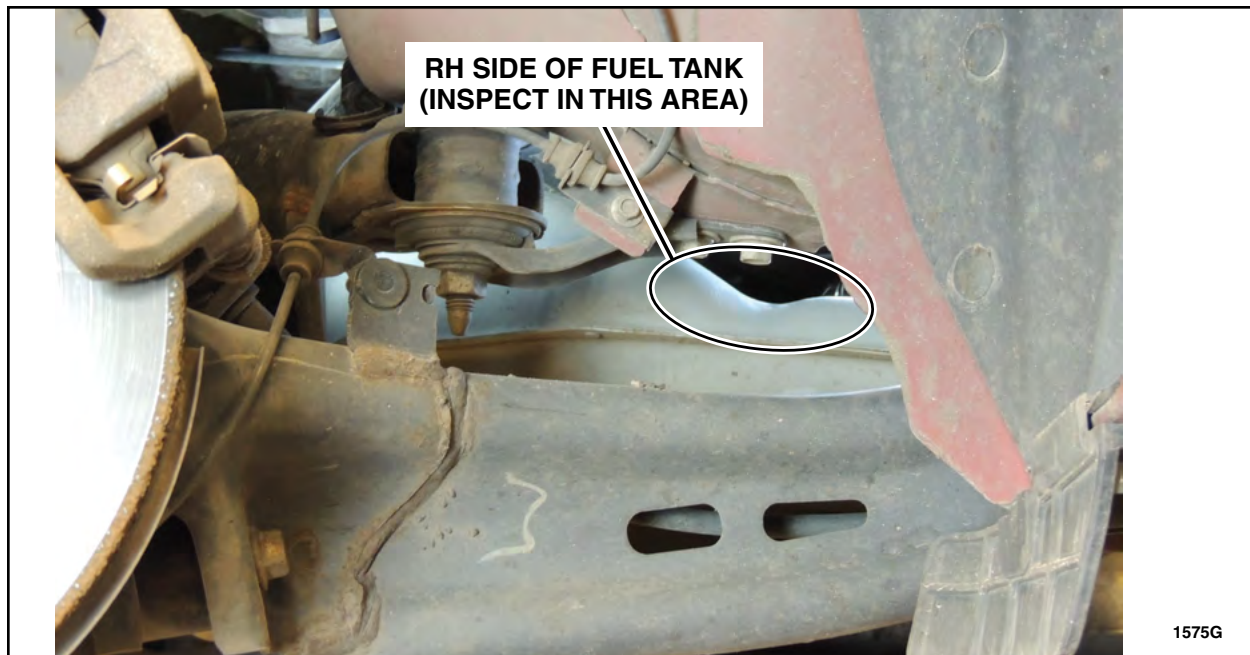

FIGURE 3
See Figure 3 on Page 5.
3. Check the top RH side of the fuel tank for signs of cracks. See Figures 3 and 4. Is cracking present?